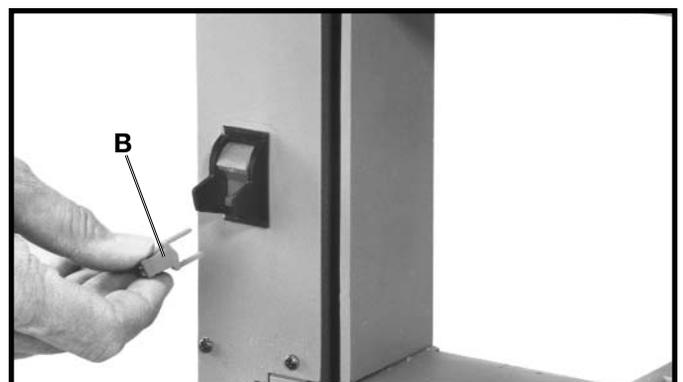

Fig. 14
**IMPORTANT:** When the tool is not in use, the switch should be locked in the “OFF” position to prevent unauthorized use. This can be done by grasping the switch toggle (B) Fig. 14, and pulling it out of the switch, as shown. With the switch toggle (B) removed, the switch will not operate. However, should the switch toggle be removed while the machine is running, the switch can be turned “OFF” once, but cannot be restarted without inserting the switch toggle (B).